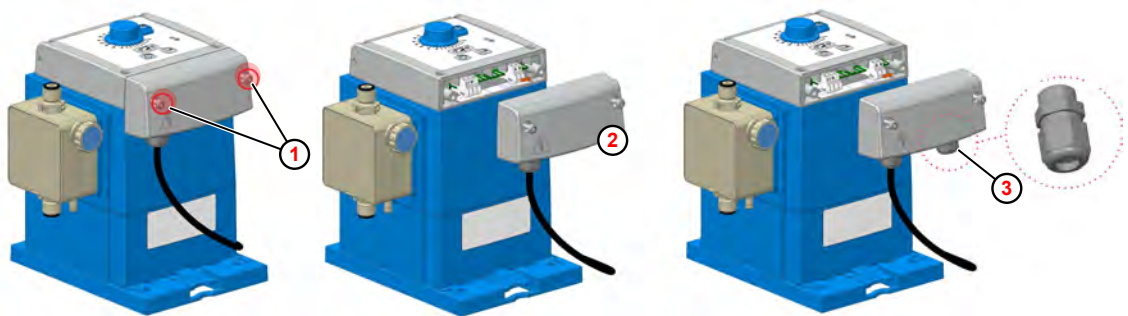

Fig. 11: Electrical installation of 'EcoPro'
① Housing screw
② Terminal cover
③ Cable connections
1. ➤ Loosen the two housing screws (Fig. 11 , ①). The screws are secured to prevent them from falling out.
2. ➤ Remove the terminal cover ② .
3. ➤ To connect the external release signal, install the supplied M12x1.5 cable union at the appropriate point ③ .